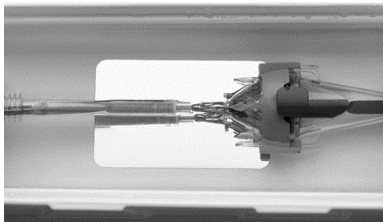

Figure 34
8. Retract the catheter tip guide tube to set the bioprosthesis frame paddles into the paddle attachment pockets (Figure 34).